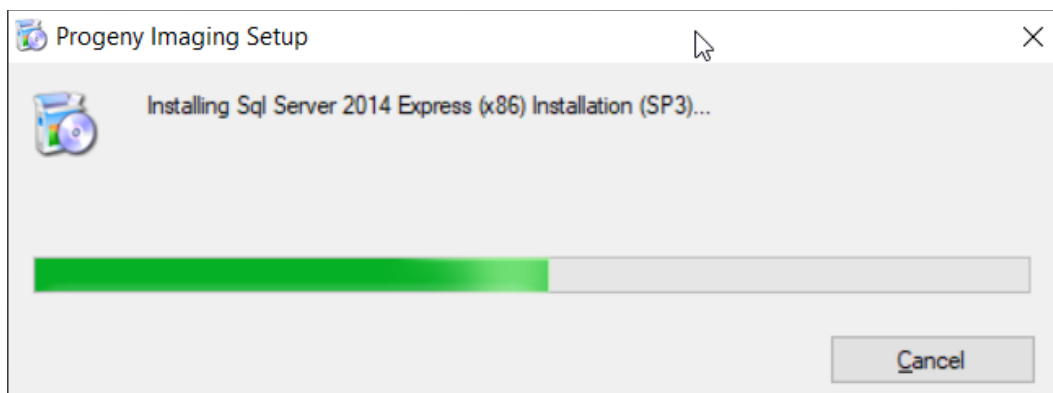

Figure 14. The “Progeny Imaging Setup” pop-up window.
- The “Progeny Imaging Setup” pop-up window appears. A green bar moves from left to right to indicate progress. Wait for the process to complete. When it does, this pop-up will automatically close out with no user action needed. (See Figure 14 below.) A similar pop-up window (not pictured) will appear and close out for Progeny Imaging configuration.